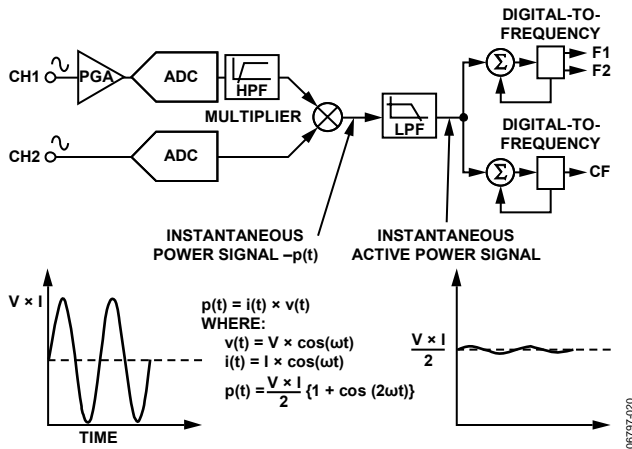

Figure 22. Signal Processing Block Diagram
The active power calculation is derived from the instantaneous power signal. The instantaneous power signal is generated by a direct multiplication of the current and voltage signals. To extract the active power component (dc component), the instantaneous power signal is low-pass filtered. Figure 22 illustrates the instantaneous active power signal and shows how the active power information can be extracted by low-pass filtering the instantaneous power signal. This scheme correctly calculates active power for nonsinusoidal current and voltage waveforms at all power factors. All signal processing is carried out in the digital domain for superior stability over temperature and time.
The pulse output calibration frequency (CF) is intended for use during calibration. The output pulse rate on CF can be up to 2048 times the pulse rate on F1 and F2. The lower the f_{1-4} frequency selected, the higher the CF scaling. Table 7 shows how the two frequencies are related, depending on the states of Logic Input S0, Logic Input S1, and Logic Input SCF. Because of its relatively high pulse rate, the frequency at this logic output is proportional to the instantaneous active power. As with F₁ and F₂, the frequency is derived from the output of the low-pass filter after multiplication. However, because the output frequency is high, this active power information is accumulated over a much shorter time. Therefore, less averaging is carried out in the digital-to-frequency conversion. With much less averaging of the active power signal, the CF output is much more responsive to power fluctuations (see Figure 22).